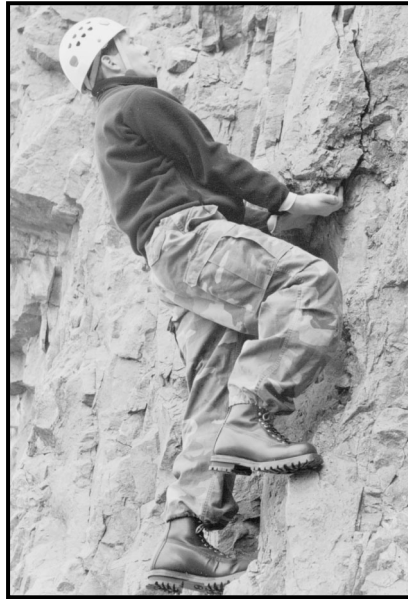

Figure 6-13. Undercling.
(3) ***Undercling.*** An “undercling” is a classic example of handholds and footholds working in opposition (Figure 6-13). It is commonly used in places where the rock